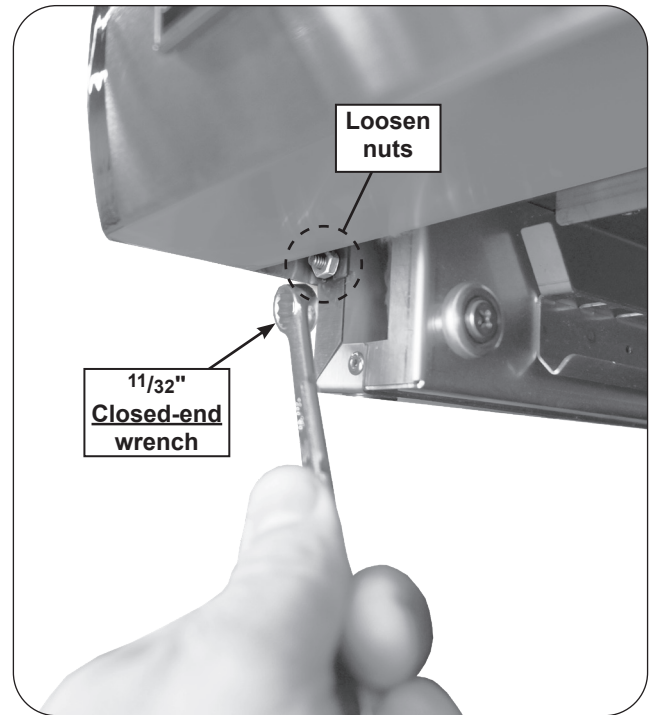

Fig. 35-1 Remove control panel
3. Loosen the nuts underneath the left and right sides of the control panel with a $11/32$ " closed-end wrench (see Fig. 35-1), then lift the panel until it is freed from the screws. Carefully rest the control panel by the internal chains.